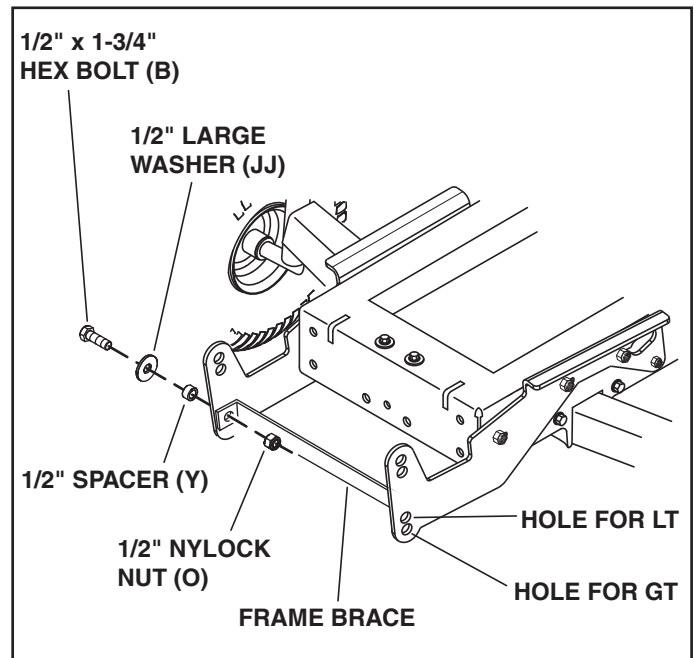

FIGURE 20
STEP 21: INSTALL FRAME BRACE (SEE FIGURE 20)
- Install the frame brace to the inside of the side plates using two 1/2" x 1-3/4" bolts (B), large 1/2" washers (JJ), 1/2" spacers (Y) and 1/2" nylock nuts (O). Install the brace in the bottom holes for Garden (GT) Tractors and the second from bottom holes for Lawn (LT) Tractors. **Do not tighten yet.**